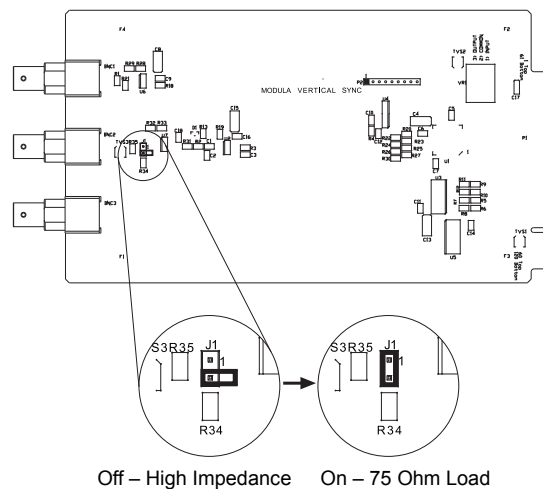

FIG. 114 Termination load jumper (J1) positions
VIS boards are shipped with the termination load jumper (J1) set to the “off” position (covering jumper pin number 1) for high impedance. If the house sync generator does not have a termination load of 75 ohms, the J1 jumper *must* be set to the “on” position (covering both jumper pins) to internally set a 75 ohm load. FIG. 114 shows the jumper location on Modula VIS boards.
2. Set the J1 jumper according to FIG. 114.
2. Determine the setting of the termination load jumper J1 (FIG. 114 on page 178) on the VIS board (new or previously installed).